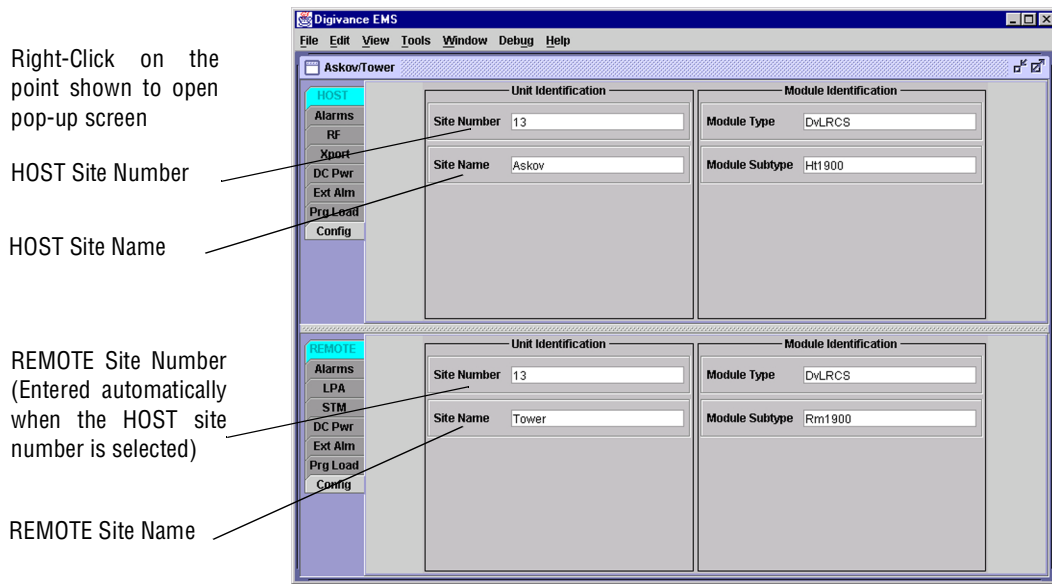
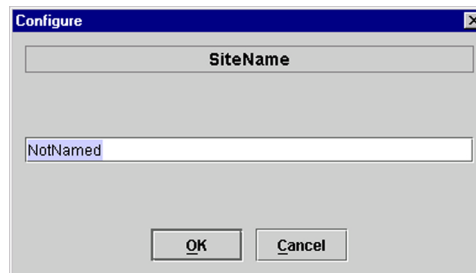

Figure 4-6. HOST and REMOTE Config Displays
Figure 4-7. HOST Site Name Pop-Up Screen
1. Click on the **HOST Config** tab and on the **REMOTE Config** tab. The **HOST Config** display and the **REMOTE Config** display will open within the EMS main window as shown in Figure 4-6.
2. Right-click on the **HOST Site Name** field (see Figure 4-6). The **Site Name** pop-up screen will open as shown in Figure 4-7. Enter a unique name for the HOST. The name may be up to 32 characters long and must not contain any spaces. The name may include numbers, punctuation, and upper or lower case letters and must always begin with a letter. Click on OK to close the screen and make the changes take effect.